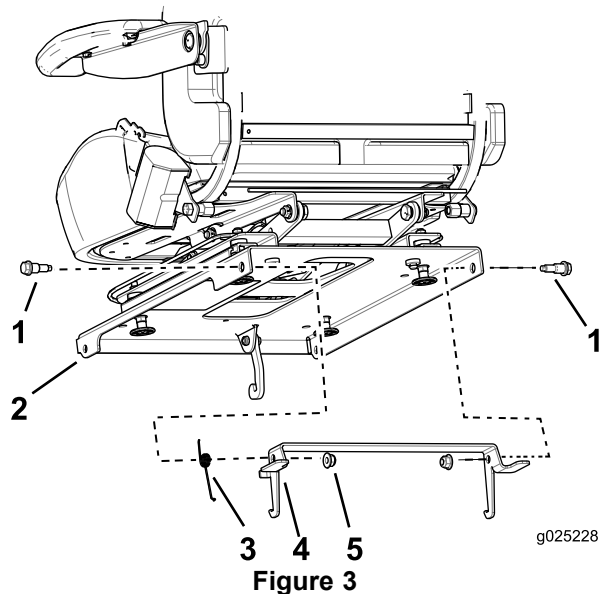

Figure 3
- Install the seat latch and spring onto the seat with 2 shoulder bolts (3/8 x 1-1/8 inch) and 2 flange nuts (3/8 inch) (Figure 3).